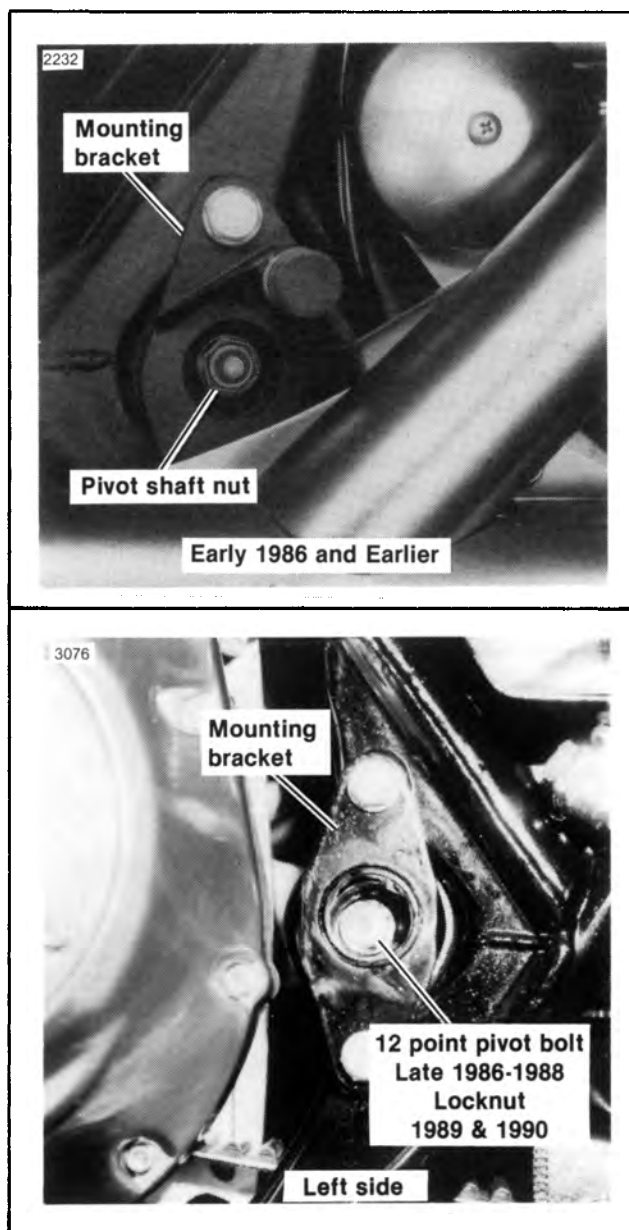

Figure 7-23. Rear Swing Arm Mounting
10. See Figure 7-23. On early 1986 and earlier vehicles remove the nut and spacer from right end of rear swing arm pivot shaft. On late 1986 through 1988 vehicles remove right pivot bolt while holding left pivot bolt. On 1989 and later models hold right side nut (6 point - 11/16 in. wrench size) and remove left side lock nut (6 point - 3/4 in. wrench) and cup washer.